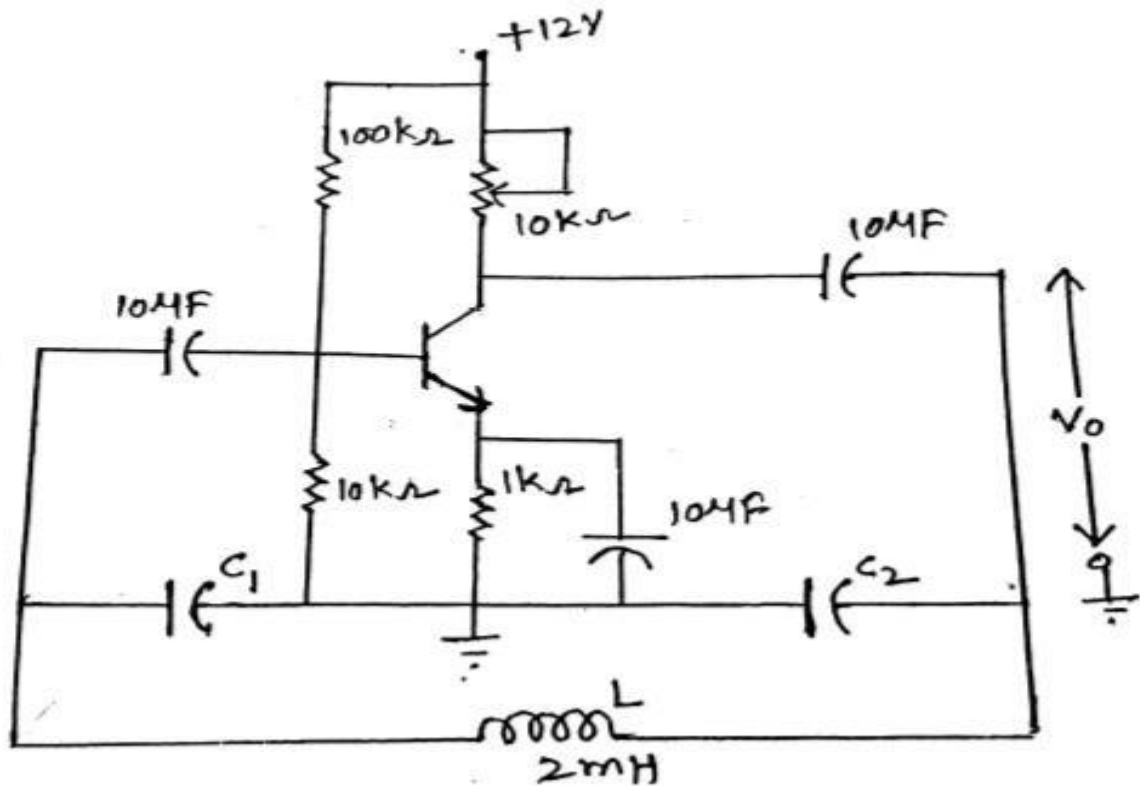

Fig. 2: Colpitts oscillator
- 1) Complete the circuit as shown in Fig. 2, by connecting the capacitors C1 & C2 provided on panel of the trainer.